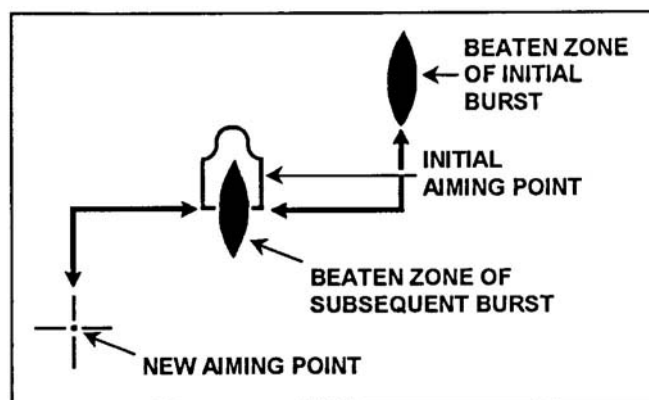

Figure 8. Adjusted aiming point method.
- b. Adjustment of fire. Use the adjusted aiming point method to quickly adjust fires without making a sight adjustment. If the initial burst misses the target, rapidly select a new aiming point the same distance from the center of impact of the initial burst but in the opposite direction. Fire a second burst (Figure 8).